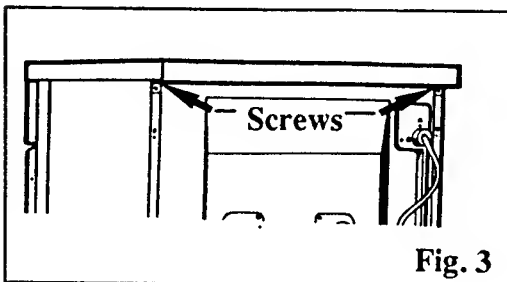

Fig. 3
* Unscrew the mounting screws at the rear of the appliance (Fig. 3).